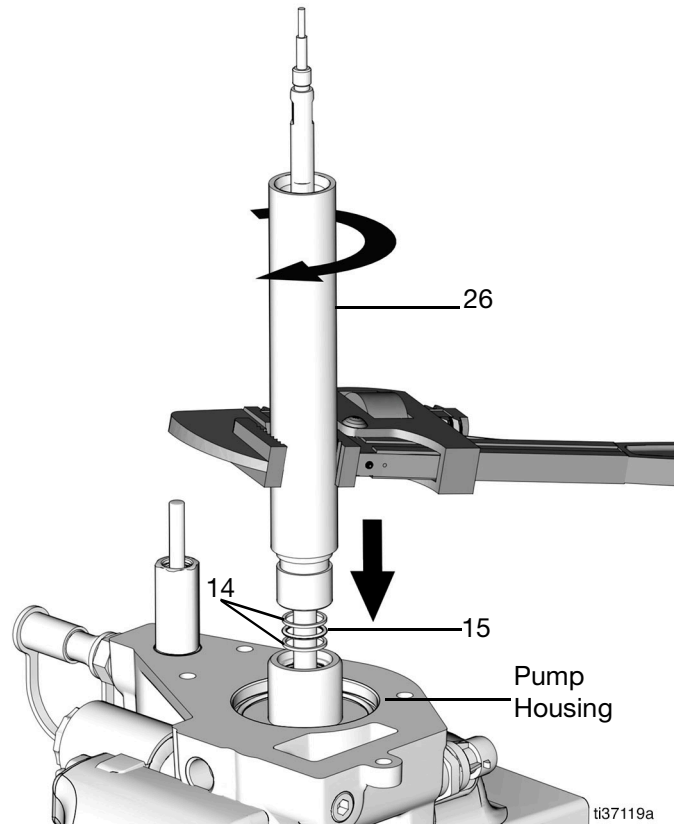

FIG. 55
- Replace the two back-up rings (14) and o-ring (15) with new back-up rings and o-ring and grease lightly (FIG. 55).
- Place the extension tube (26) over the pump rod and tighten to pump housing (torque 32 ft-lb/43.4 N•m) (FIG. 55). Apply medium strength thread locking compound.